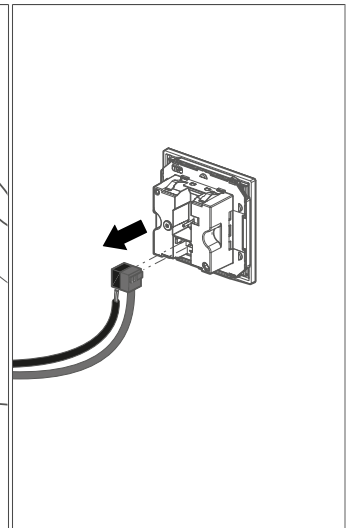

Fig. 22: Disconnecting the KNX bus connection terminal
- 4 Remove the KNX bus connection terminal from the device (see Fig. 22).